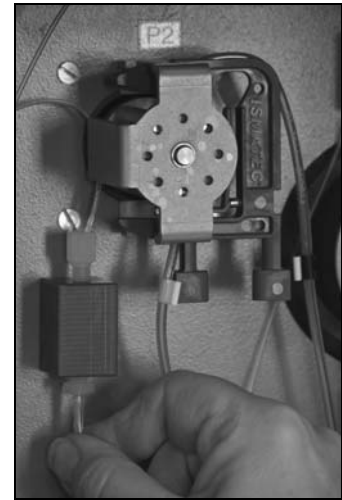

Fig. 30: Tube connection to connection block, pump P2
- Release the tube from connection block P2 (fig. 30) and the reagent connection block.